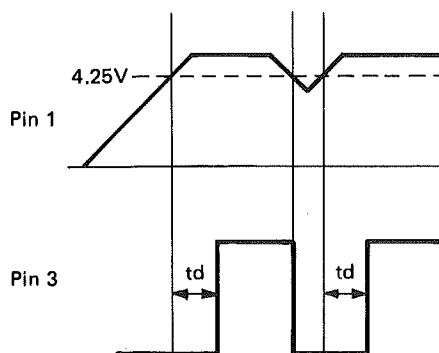

Fig. 10 Reset and backup circuit
**Fig. 10** shows the reset backup circuit. When the transceiver is turned ON, 3.0V is applied at the INT4 pin causing IC3 to enter the backup mode.